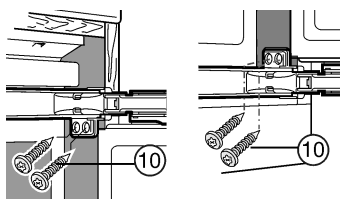

Fig. 20
- ▶ by screwing long Spax screws Fig. 20 (10) through the top and bottom hinge plates.